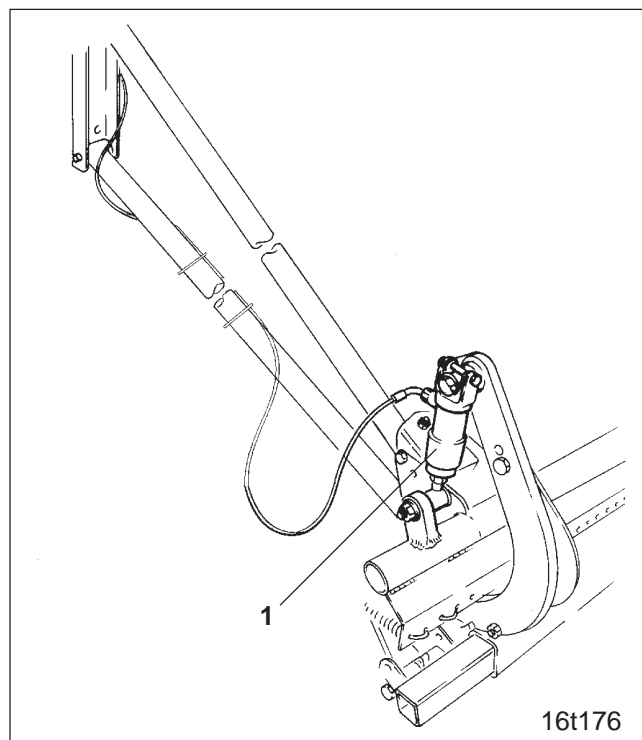
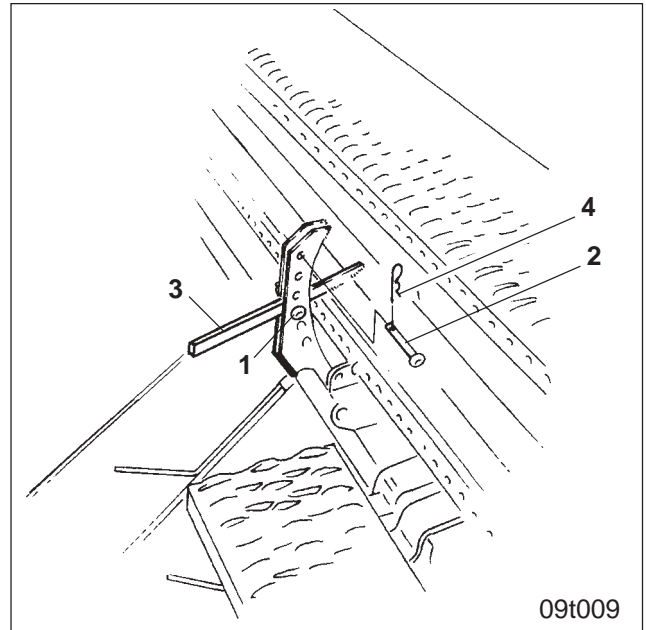

Fig. 13.8
Fig. 13.9
When changing from normal soils to heavy soils or vice versa, the coulter pressure is readjusted by a hydraulic ram (Fig. 13.8/1).
Two pins (Fig. 13.9/1 and Fig. 13.9/2) are placed as a stop for the lever (Fig. 13.9/3) in the setting segment. The lever (Fig. 13.9/3), which is actuated by the hydraulic ram (Fig. 13.8/1) lays on the pin I (Fig. 13.9/1) when the hydraulic ram is without pressure and it lays on pin II (Fig. 13.9/2) when the hydraulic ram has been pressurised.
- make the hydraulic ram (Fig. 13.8/1) pressureless.
- insert pin II (Fig. 13.9/2) into a hole in the setting segment above the lever (Fig. 13.9/3) and secure by a clip pin (Fig. 13.9/4).
- Pressurise hydraulic ram (Fig. 13.8/1).
- Insert pin I (Fig. 13.9/1) into a hole in the setting segment below the lever (Fig. 13.9/3) and secure by a clip pin (Fig. 13.9/4).